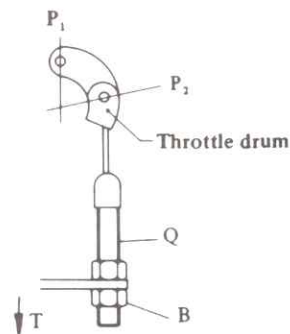

Fig. 7.7 Kickdown (throttle) cable end fitting at carburettor (Sec 7)
- 2 With the throttle cable pulley held in the full throttle position move the cable end fitting in the direction T (see Fig. 7.7). Tighten nut B to eliminate any free movement.